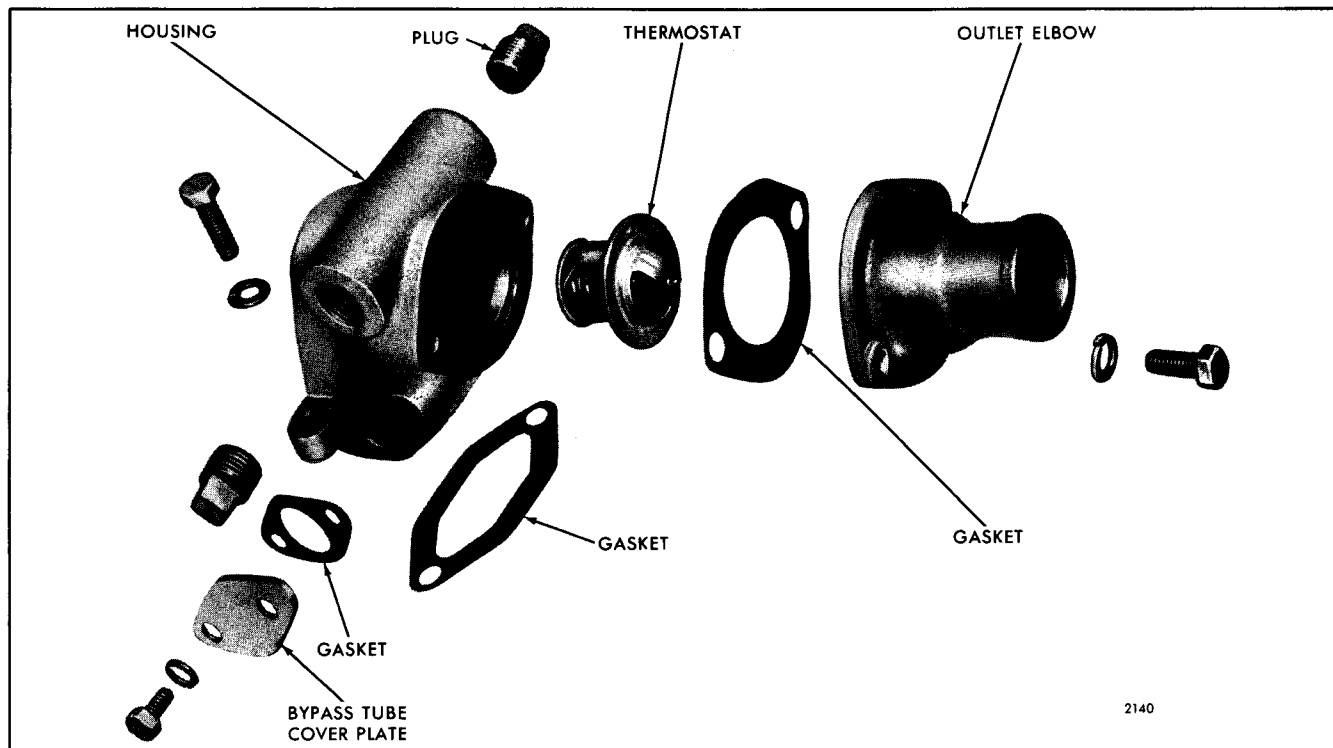

Fig. 2 - Thermostat Housing Details and Relative Location of Parts (In-Line Engine)
3. Loosen the bolts and remove the water outlet elbow from the thermostat housing on the In-line engine (Fig. 2). Take out the thermostat.
Refer to Figs. 2 and 3 and install the thermostat(s) as follows: